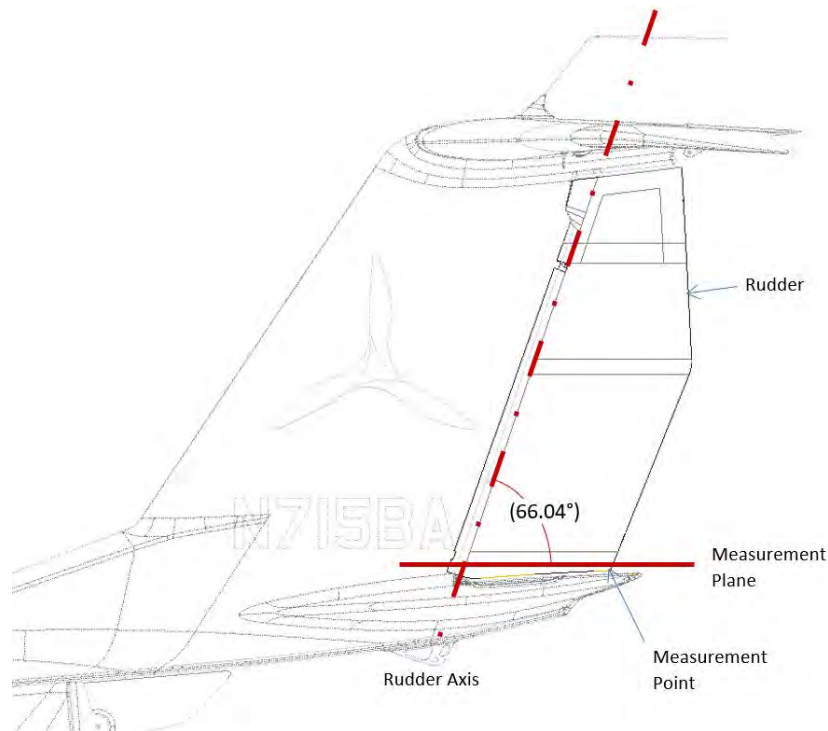

FIGURE 10-53
1. Position the rudder rigging template (ICA013055) or a protractor as shown in Figure 10-53, Center the 0° indication of the rigging template or protractor with respect to the center of the tail section under the rudder.